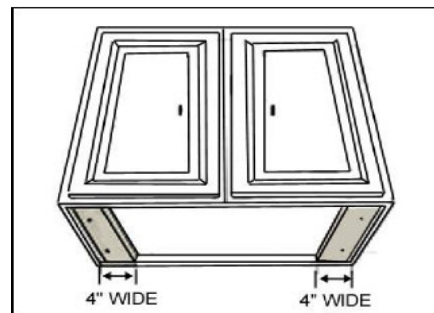

Figure 2
- For installing under the cabinet with recessed bottom, attach 4-inch wide wood filler strips (not included) on each side. Refer to Figure 2.